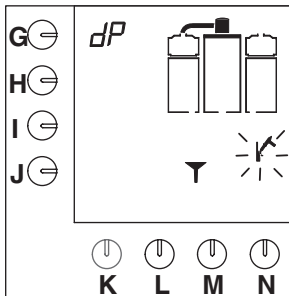

Fig. 16 Coffee-making system asks for descaling solution
- A signal sounds, the hammer symbol flashes and a funnel appears on the display (fig.16).